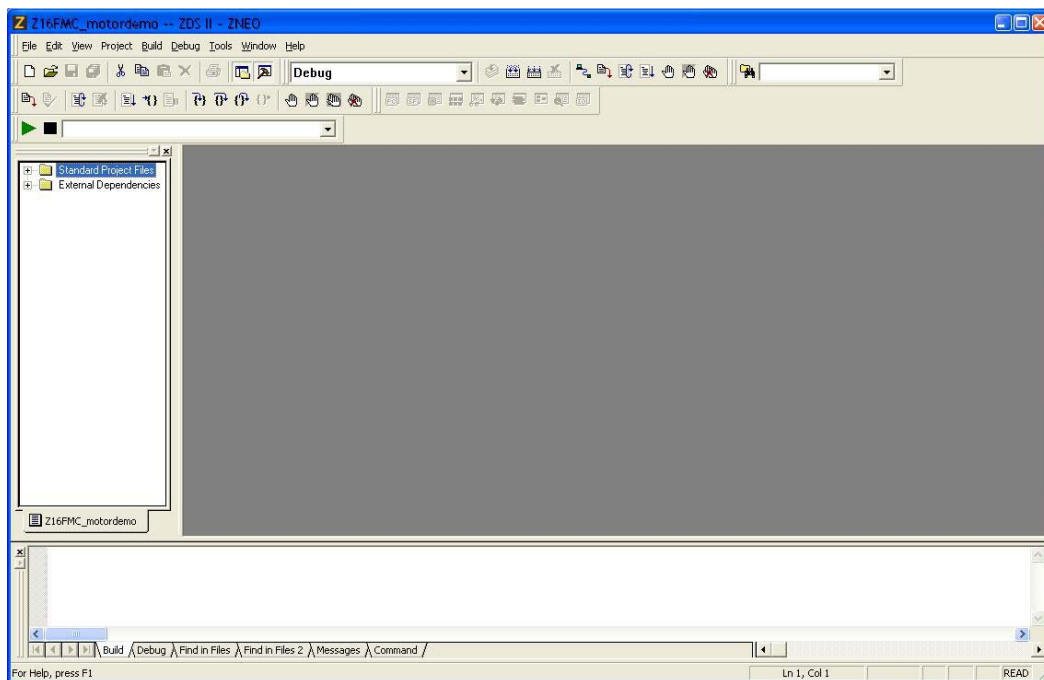

Figure 4. Zilog Developer Studio II Opening Screen
6. Select the `Z16FMC_motordemo.zdsproj` file and click **Open**. The initial ZDSII program screen opens (see Figure 4). To view the project source files, double-click the **Project Files** folder on left side of the IDE interface. Double-click an individual file to open the file in the ZDSII file editor.